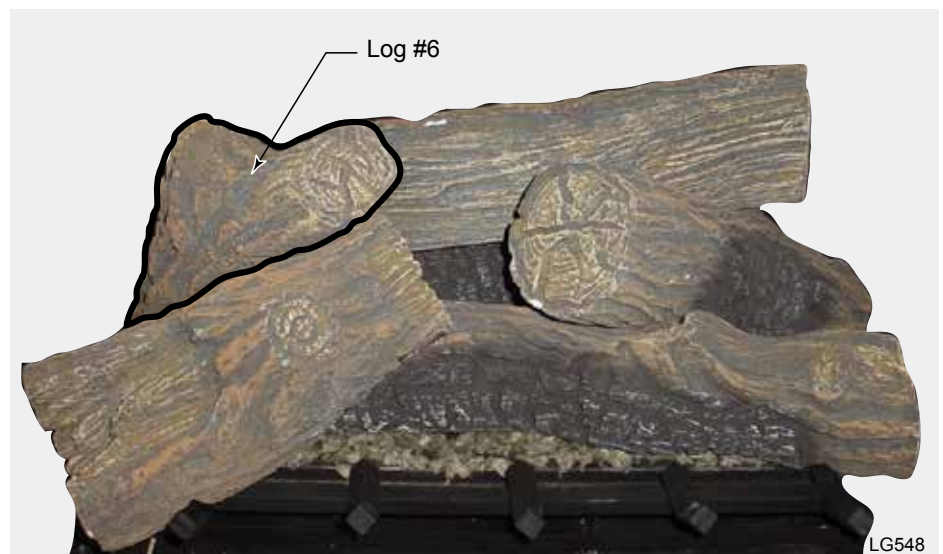

Figure 24.
6. Place log #5 by matching the rectangular notch on the bottom of the log with the rectangular protrusion on log #2. Set the notch on the bottom of this log over the very far left tong on the grate. *Figure 24*